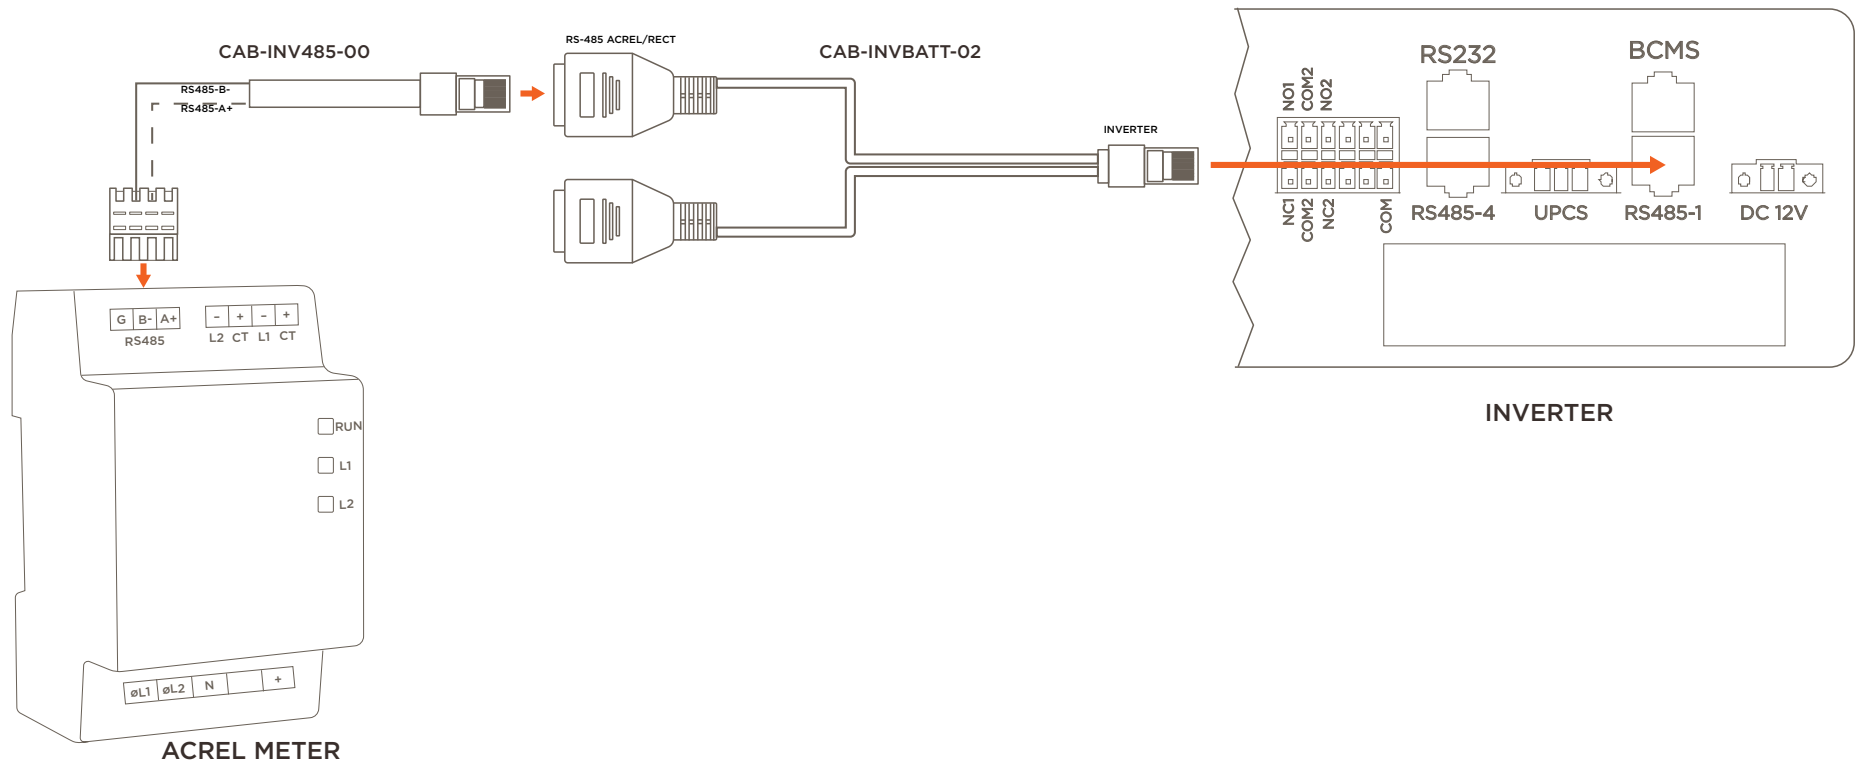

Figure 13b: Pigtail Adapter Connections
1. Remove the RS485 terminal block from the Acrel Meter. Make connections to the RS485 A+ and B- terminals using included Pigtail Adapter (CAB-INV485-00). Replace RS485 terminal block into Acrel Meter. (See Figure 13b).
2. Use CAB-INVBATT-02 to make connection from the CAB-INV485-00 to the RS485-1 terminal of the Inverter. (See Figure 13b).